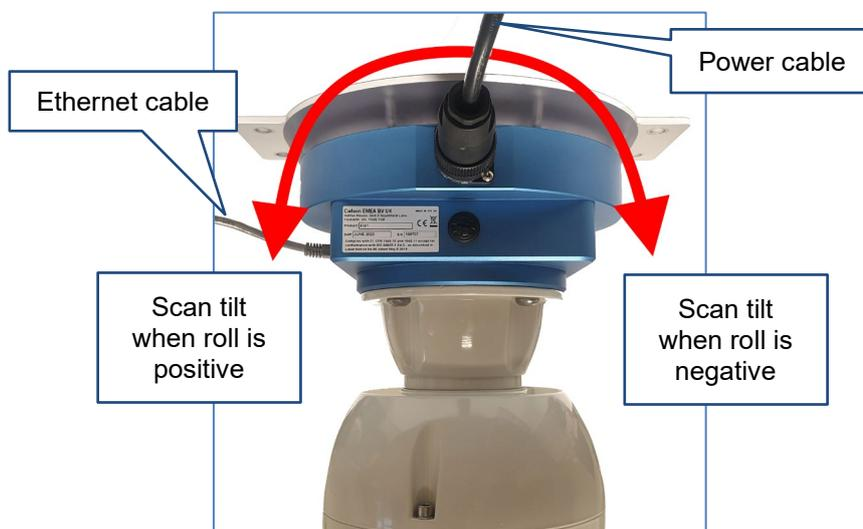

Figure 71 Roll offset in relation to the FiX1 hardware
- **Roll offset:** the mounting plate roll inclination, offset from horizontal. The roll is related to the FiX1 hardware (see Figure 71)